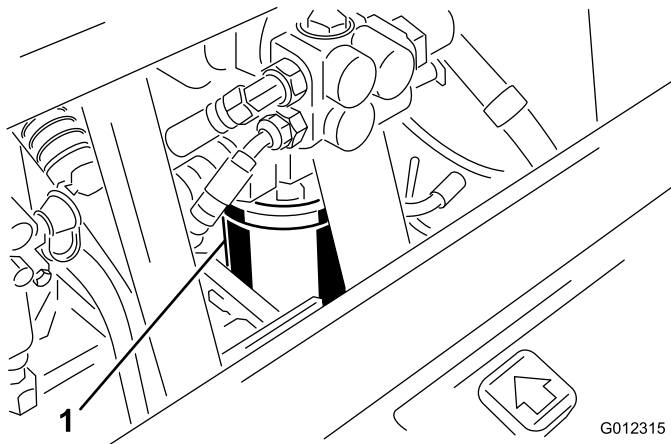

Figure 44
2. Clean around the filter mounting area (Figure 44). Place a drain pan under the filter and remove the filter.